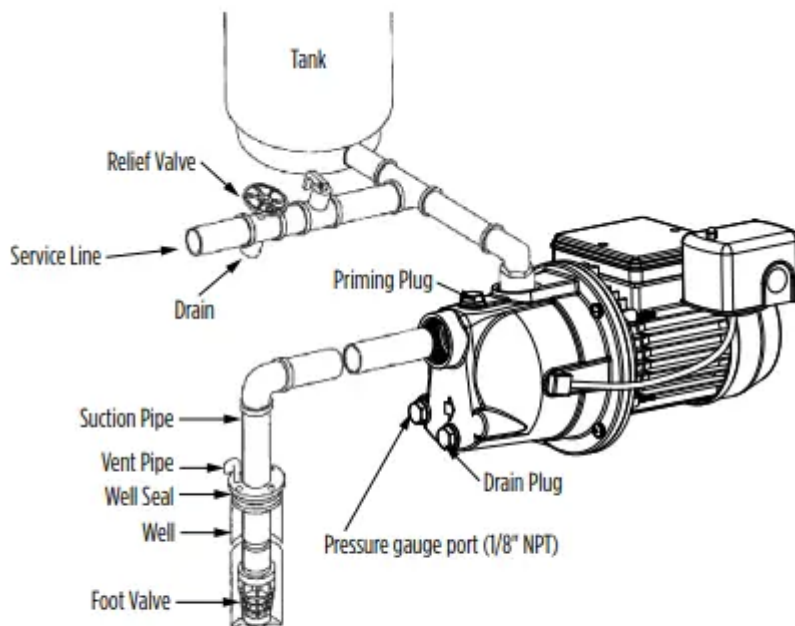
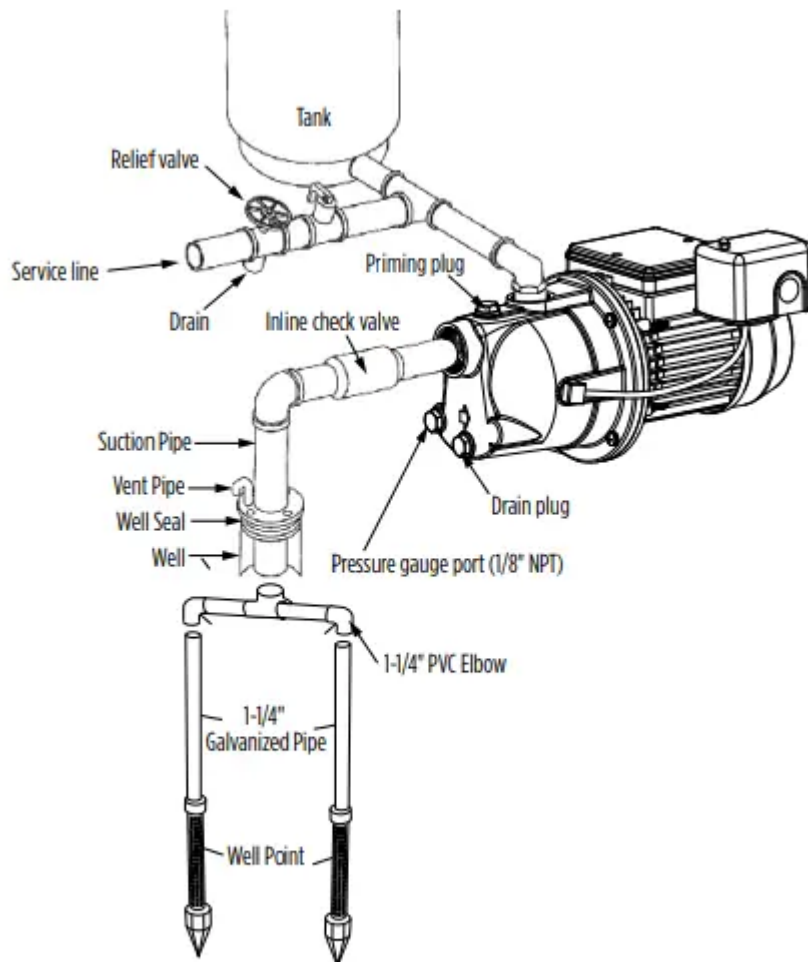

Figure 3 - SHALLOW WELL
Figure 5 - SHALLOW WELL
11. A pressure gauge is not supplied with the pump. It should be installed into the 1/8" NPT hole on the front of the casing on the opposite side of the pressure switch (see Typical Installations Figures 3, 4, 5, or 6).
Shallow well installations use only a single pipe connecting the pump to the water supply. This pump can be used for drilled wells (see Figures 3, 4 or 6) or driven wells (see Figure 5). Drilled wells are holes drilled into the ground by professional well drillers using a large rig. Driven wells use well points (also known as sand points), which is a long pointed tube with a screen that allows water to enter the pipe but keeps out sand and sediment. The water level in a driven well is fairly high or near ground level (maximum 30 ft [9.1 m]). Continue with the appropriate shallow well installation.
7. A pressure gauge is not supplied with the pump. It should be installed into the 1/8" NPT hole on the front of the casing on the opposite side of the pressure switch (see Typical Installations Figures 3, 4 or 6).
1. Drive the well point into the ground according to the instructions that come with the well point. It must be deep enough to bore through the water bearing formation below the water table but should not exceed 25 ft (7.6 m) in depth. An individual well point may not supply the amount of water needed. Sometimes it is necessary to use more than one well point to increase the water supply. The two separate well points can be jointed together using additional piping and a cross joint (see Figure 5).
8. A pressure gauge is not supplied with the pump. It should be installed into the 1/8" NPT hole on the front of the casing on the opposite side of the pressure switch (see Typical Installations Figure 5).